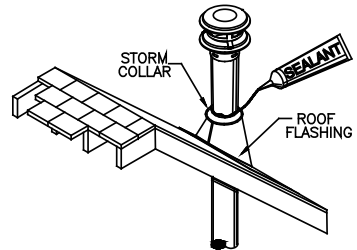

Figure 9
I. To finish, apply non-hardening waterproof sealant where the Storm Collar will meet the vent and Flashing; slide Storm Collar down until it rests upon the Roof Flashing (**Figure 9**). Holding the base of Cap, firmly twist lock your Vertical Termination Cap onto, supported Pipe Section protruding through the roof line.